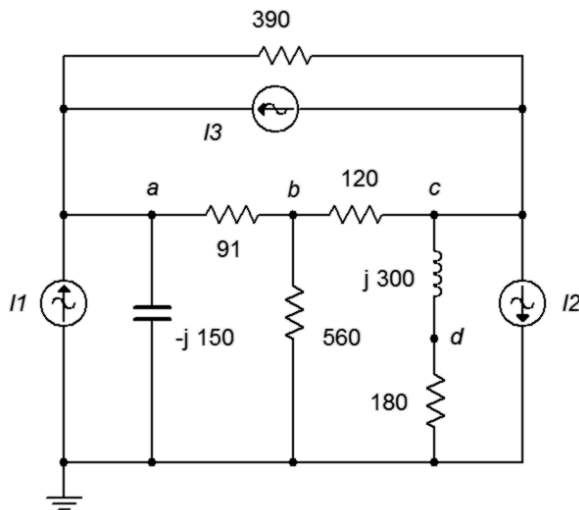

Figure 6.32
67. Given the circuit in Figure 6.32, use nodal analysis to determine v_{ad} . $I_1 = 0.1\angle 0^\circ$, $I_2 = 0.2\angle 0^\circ$, $I_3 = 0.3\angle 0^\circ$.